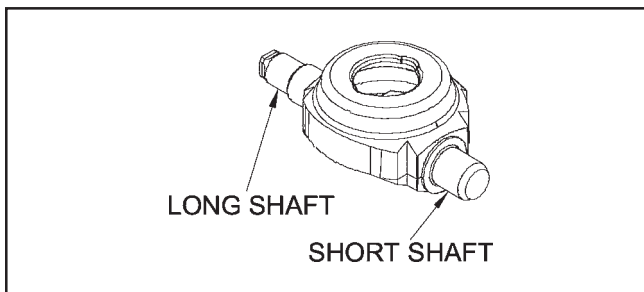

Figure 20
14. *Care must be taken to prevent the scaring or scratching of the center section sealing face during this step.* Insert the shaft of the swashplate/pump block assembly (Figure 20) into the housing while simultaneously compressing the pistons in the block. NOTE: To assist in the installation of these components, insert the assembly until 3/4 of the pump block is covered by the center section. Then slightly press the shaft end toward the center section while pushing the shaft into its bore.